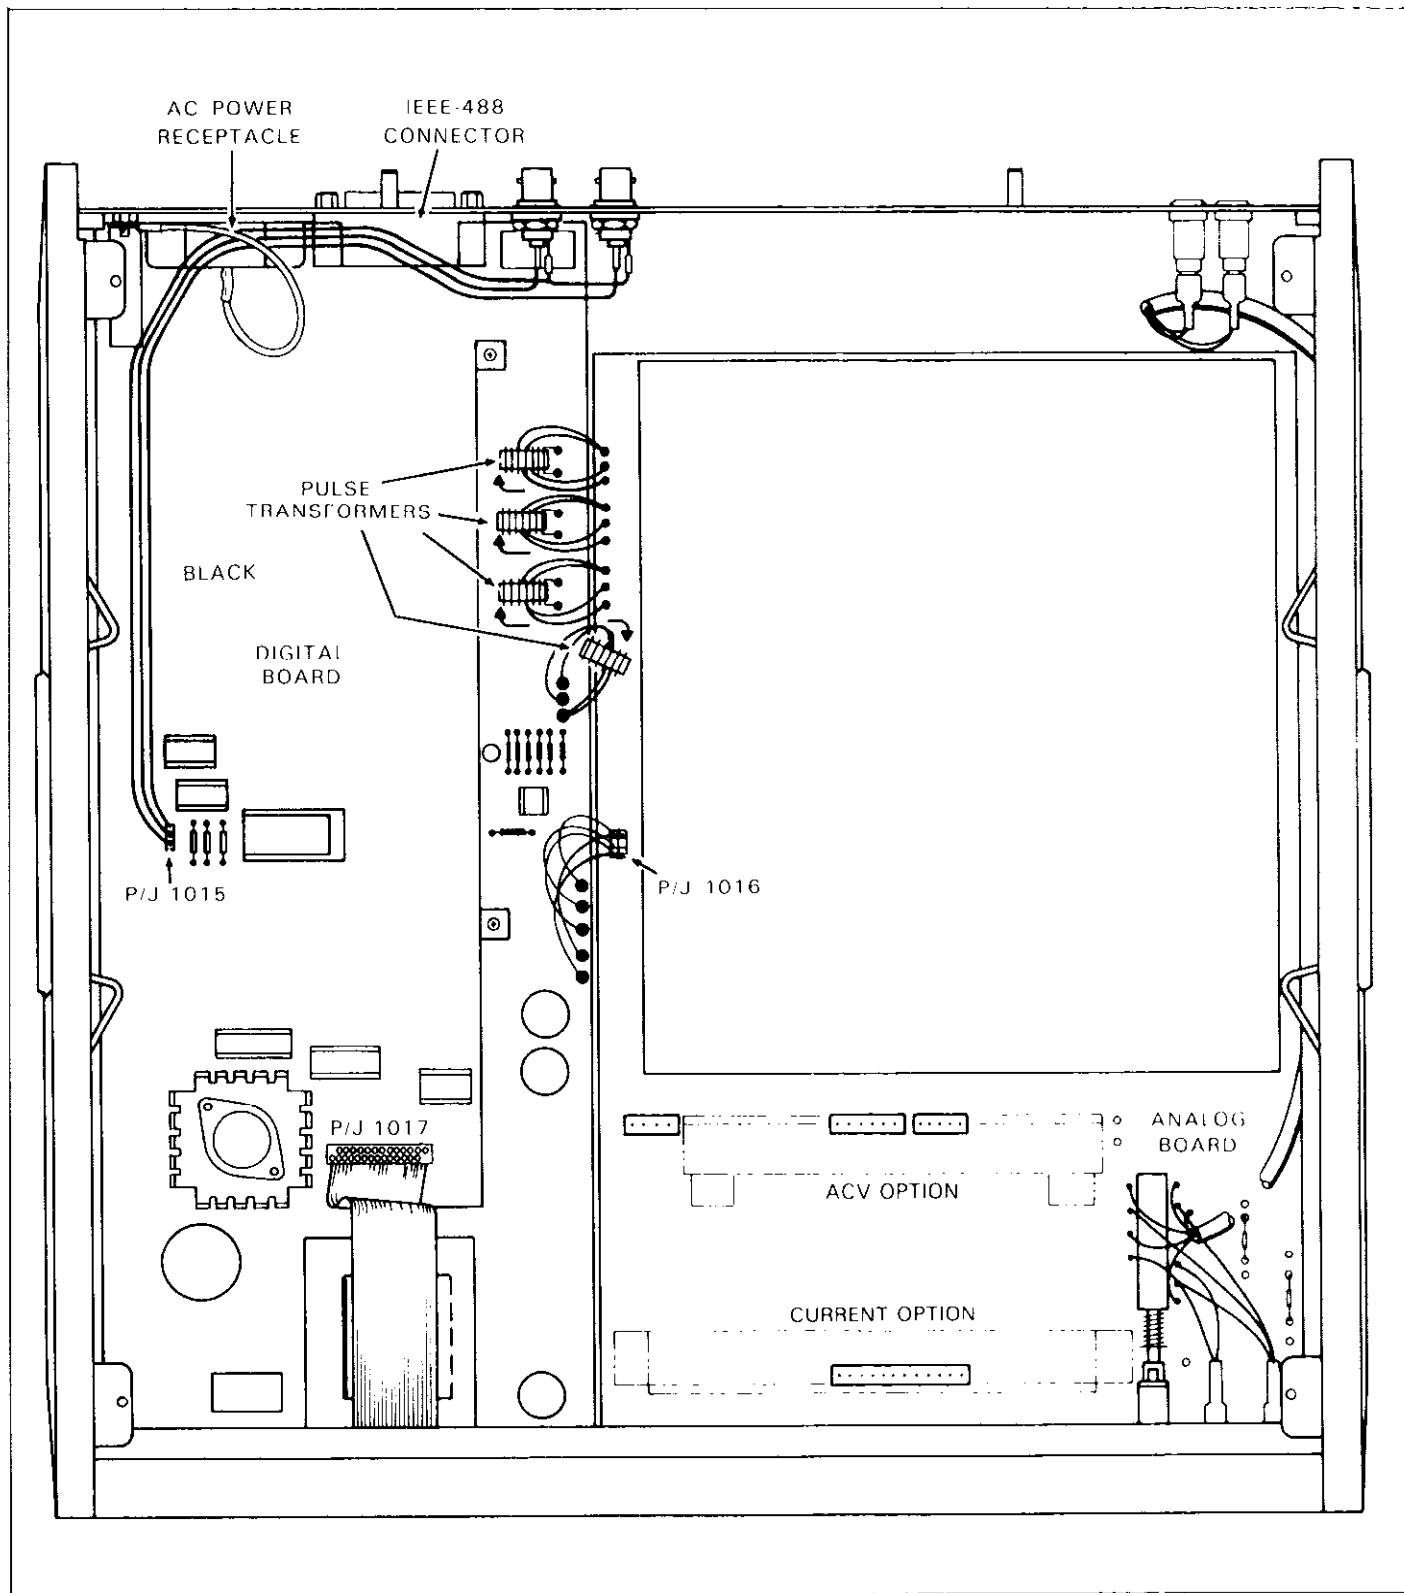

Figure 6-11. Connectors
If it is necessary to troubleshoot the instrument or to replace a component, use the following disassembly procedure. Refer to Figures 6-11 and 6-12.
- D. Disconnect and remove the wires that feed through the four pulse transformers. When reinstalling, make sure that the wires are fed through the transformer cores in the correct direction as shown by the arrows etched on the PC-board and in Figure 6-11.